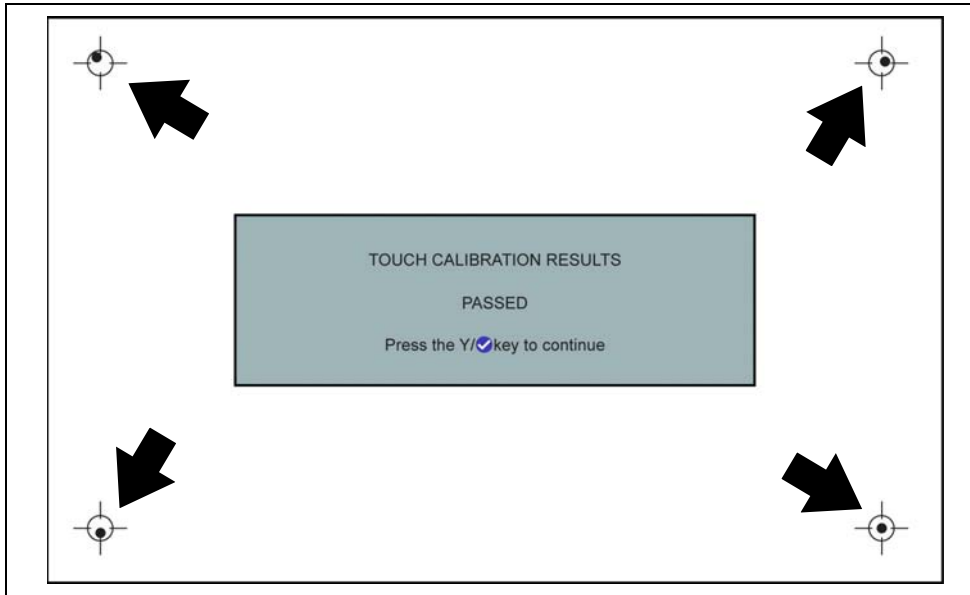

Figure 10-7 Touch screen calibration - Passed
- If the calibration is successful, the “Touch Calibration Results - Passed” screen is displayed (Figure 10-7). Press the **Y** button to complete the process and return to the Display menu.
- The results screen (Figure 10-7) shows the entered calibration of each indicator. Ideal calibration would be to select each indicator exactly in the center, however selection inside the displayed circle is acceptable. If selecting the center is difficult using your finger, use a touch screen stylus (not included).